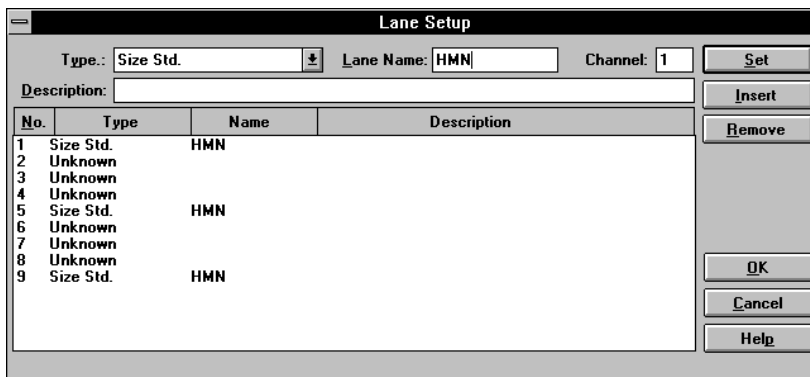

Figure 3-3. Identifying standards lanes.
After making your selections, click **Set**. The lane list is updated with the new information (figure 3-3).
4. Click **Set**. The lane list is updated with the new information (figure 3-3).